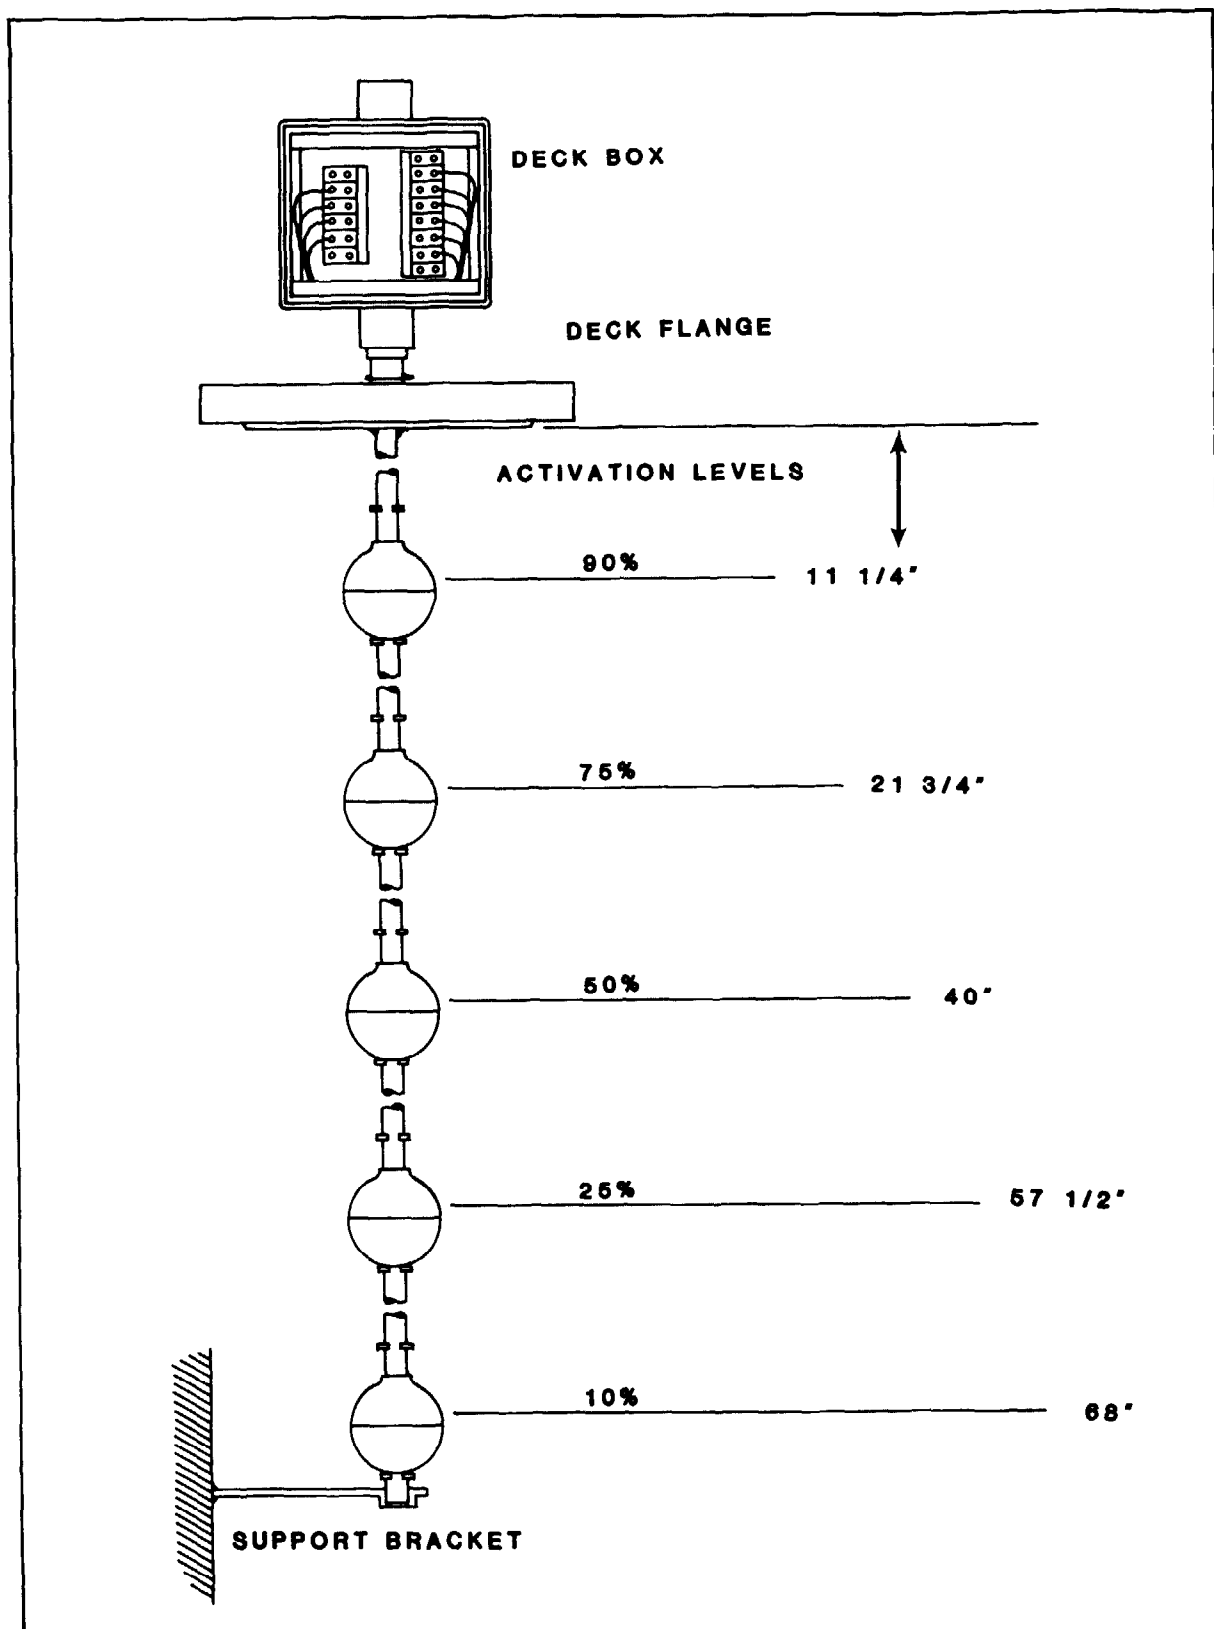

FIGURE 2-12
2.4.1 LEVEL INDICATOR FUNCTION. The level of sewage in each cargo tank is indicated by individual float sensors. Five stainless steel Gems sensor floats are mounted on each sensor stalk, which contains switches that are closed by magnets in each float. Each switch is closed as the float reaches the activation level. Figure 2-12 shows the 5 floats on the sensor stalk. The float positions correspond to 10%, 25%, 50%, 75%, and 90% of full tank volumes. The Tables in Appendix C give the approximate volume for each tank float for even and uneven keel conditions. Indicator lights are mounted on a panel in the Deck House.